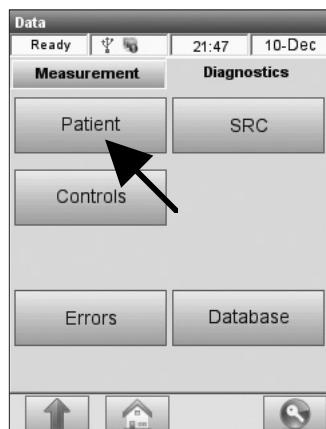

Fig. 6-15 Diagnostics
2. In the **<Data>** screen, press the **<Diagnostics>** tab and select **<Patient>** (Fig. 6-15).